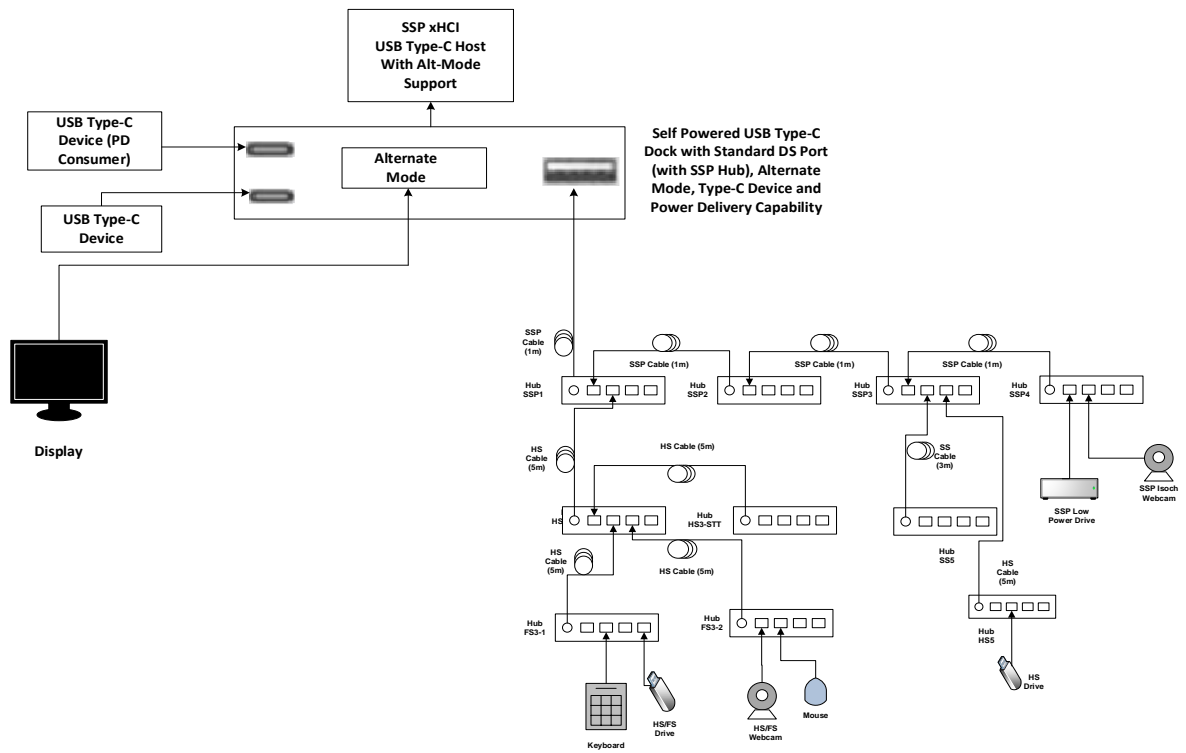

Figure 8-1: USB-Type C Interoperability Tree
Connect the tree as shown in Figure 8-1
- Connect the USB Type-C Interoperability Tree from Figure 8-1 to a second USB Type-C Port